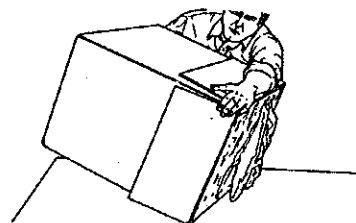

Fig.A-1
4. Gently turn the entire box upside down. See Fig.A-1.